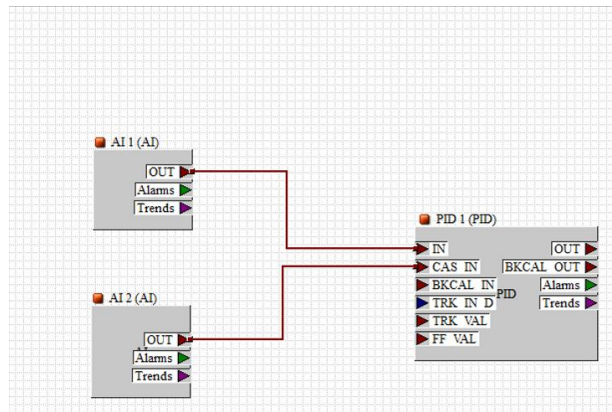

Figure 3.13 Function block configuration diagram
(1) After ensuring that the NCS-TT106F transducer block is configured correctly and are in Auto mode, open the "Function Block Application" configuration interface in the NI software, drag the AI1, AI2, and PID function blocks into the configuration interface to connect AI1 and AI2 OUT to PID IN and CAS\_IN respectively. As shown in Figure 3.13 below.